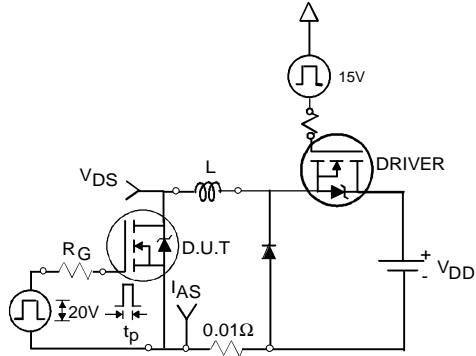

Fig 12a. Unclamped Inductive Test Circuit
| I_{AR} | Avalanche Current [Ⓓ] | See Fig.12a, 12b, 15, 16 | A |
3. Equation below based on circuit and waveforms shown in Figures 12a, 12b.